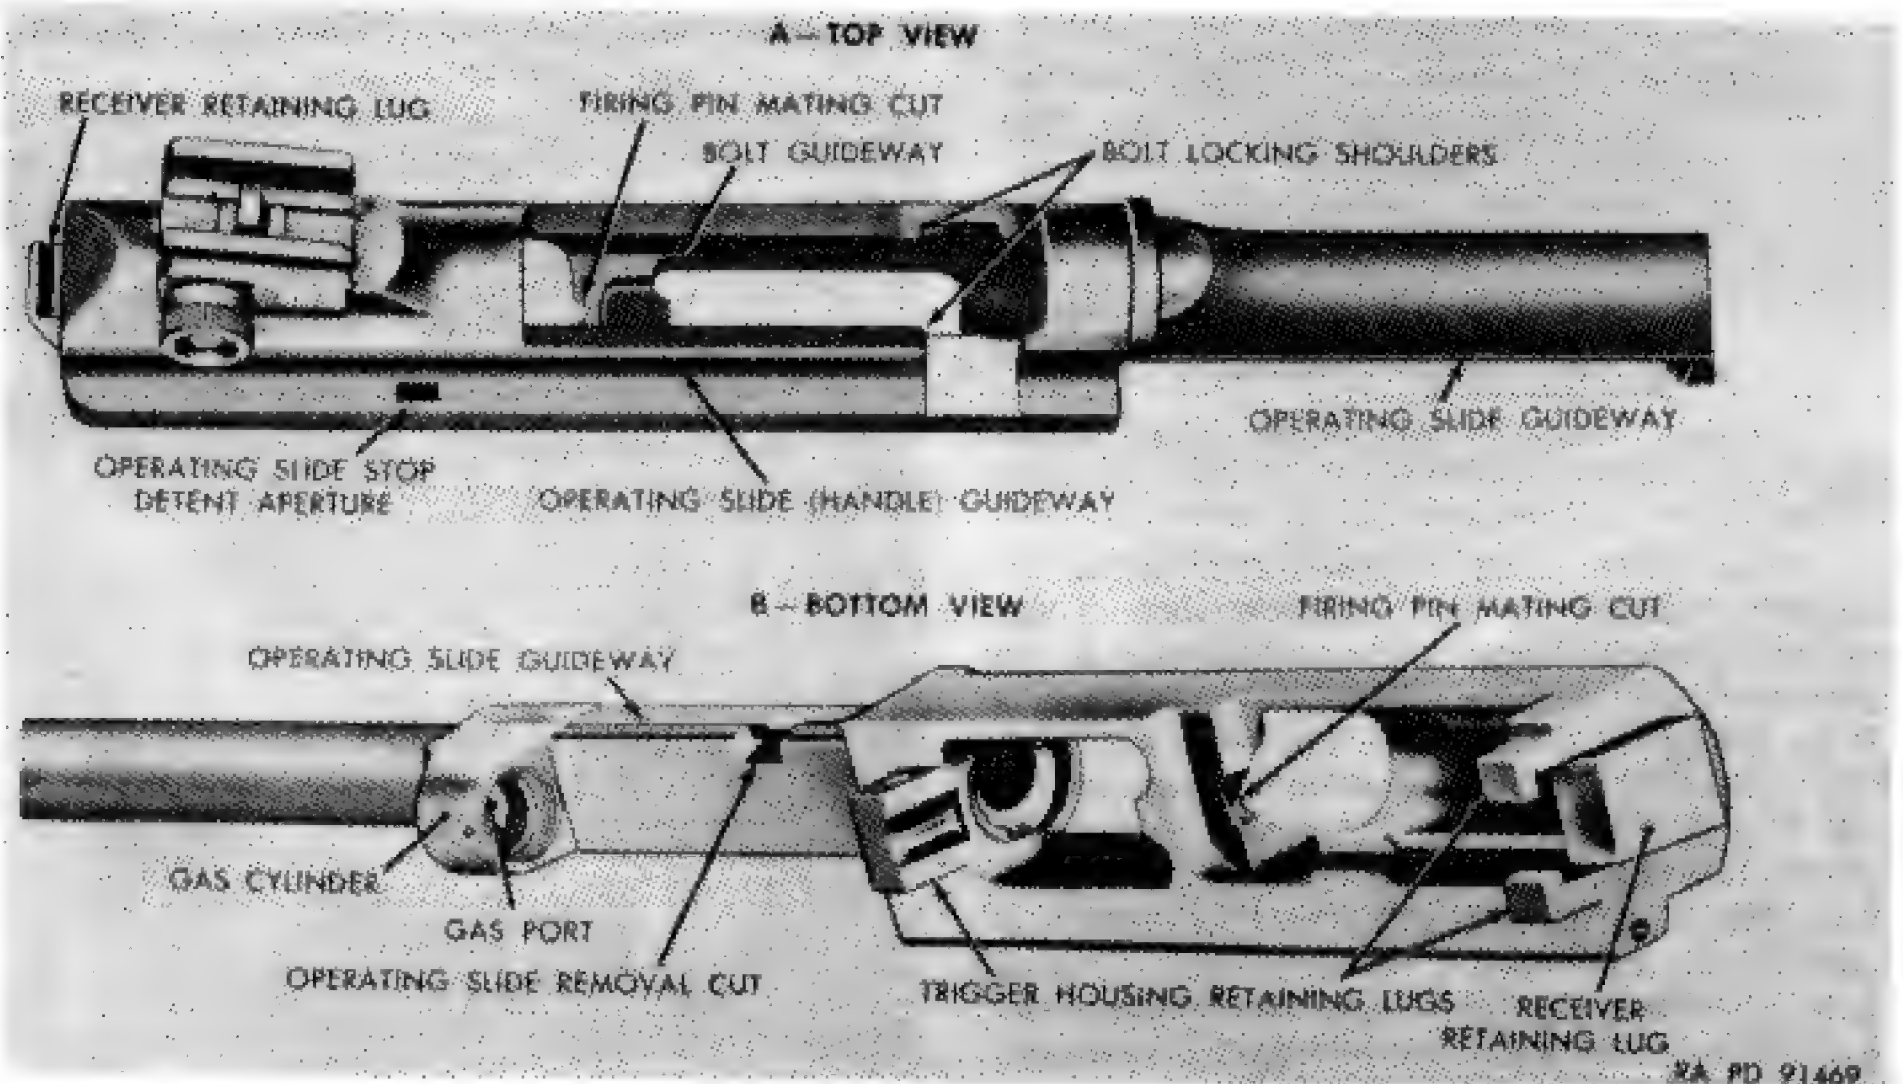

Figure 78. Barrel and receiver group — points of inspection.
- (1) Inspect operating slide spring well for rust or foreign matter. Visually inspect receiver for break-through of the operating slide spring hole. This break-through occurred in the original manufacture of some receivers because of the drill running out through either the bottom or right-hand exterior surfaces. If the forward end of the break-through is 3 inches or more from the front end of the receiver, it is acceptable; otherwise, it must be rejected (DEPOT MAINTENANCE ONLY). Any sharp or feather edges around this break-through are to be removed.
- (2) Inspect receiver under "black light" (Magnaglo or approved equal) for cracks in the area around the bolt locking slot at the right hand side and at the front and rear trigger housing retaining lugs (DEPOT MAINTENANCE ONLY). Receivers having cracks extending in both directions around a corner must be rejected.
- (3) Visually inspect condition of firing pin retracting cam mating cut in the bridge of receiver (Fig. 78). This cam was cut to an angle of 33 degrees in the earlier manufacture of receivers and later to 45 degrees. Both are acceptable if in good condition.
- (4) Visually inspect trigger housing retaining pinhole in the receiver. If out-of-roundness is apparent, reject the receiver (DEPOT MAINTENANCE ONLY).
- (5) Inspect the bullet ramp in the receiver to assure it is clean and smooth for proper feeding of the ammunition. Burrs and sharp edges should be removed by careful polishing with fine emery cloth. The lower edge of the
- (6) Inspect receiver for looseness with barrel, deformation, rust and burrs. If receiver is disassembled from barrel, inspect for worn or crossed threads in barrel aperture (DEPOT MAINTENANCE ONLY).
- (7) Inspect bolt guideway and locking shoulders for wear, burrs, cracks, and foreign matter. Inspect receiver retaining lug on rear end (Figs. 78 and 104) for wear, burrs, and looseness with recoil plate when assembled to stock.
- (8) Inspect operating slide guideway on right side for wear, burrs, and foreign matter, and operating slide removal cut for wear and burrs. Inspect operating slide stop detent aperture for wear, burrs, and foreign matter. Forward surface of aperture should be at a sharp right angle to receiver, and with a clean edge to facilitate retention of stop, and rear face smooth and sloping to facilitate camming. Inspect the rear inside face of receiver for foreign matter.
- (1) The muzzle of all barrels must be counterbored (Fig. 78) during rebuild to remove tool marks, nicks,